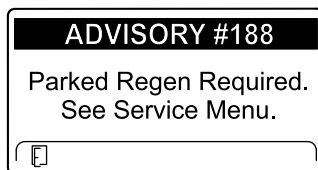

Figure 56
- Parked regeneration required ADVISORY #188 (Figure 56)